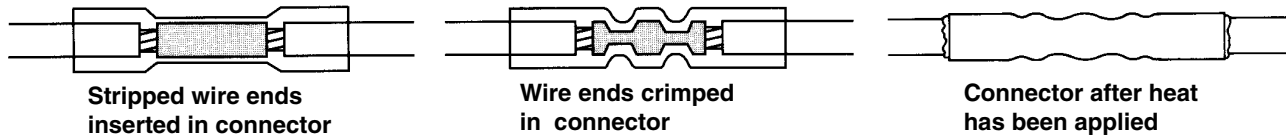

Figure 2. Install Sealed Butt Connectors
3. See Figure 2. Insert turn signal kit wires and the wires prepared in step 2 into opposite ends of a butt splice connector (1). Connect black to black and violet to violet/brown.
4. Match the color of the butt splice connector (1) with the color of the crimp cavity of the crimping tool. Using a H-D 38125-8 crimping tool, crimp wires into the connector.
5. See Figure 2. Using the UltraTorch UT-100 (H-D 39969), Robinair Heat Gun (H-D 25070) with Heatshrink Attachment (H-D 41183), or other suitable radiant heating device, heat the crimped splice to encapsulate the butt splice connection. Apply heat from the center of the crimp out to each end until the meltable sealant exudes out of both ends of the connector.
9. Secure conduit in place with cable straps (7).